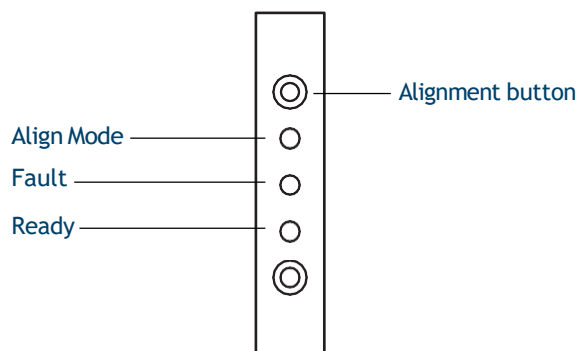

Figure 81. Aligning the injector
- 4 Use a long, narrow object to press the recessed Alignment button above the indicator lights. Avoid contact with anything behind or around the button inside the recessed hole (Figure 81).